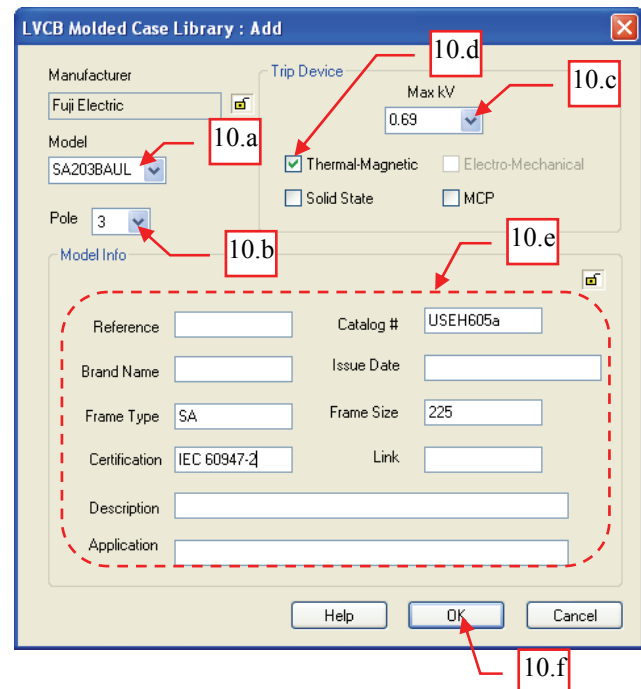

Fig. 9
10. Again, guided by the information in Table 1, page 1, in the “LVCB Molded Case Library: Add” dialog box, do the following (see Fig. 9):